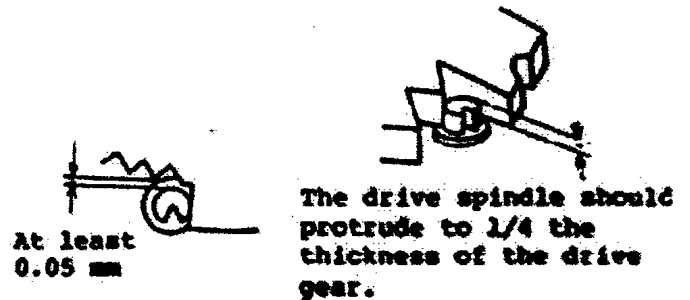

Fig. 27
3. Confirm that the gap between the drive gear and film counter gear is as shown in Figure 27.